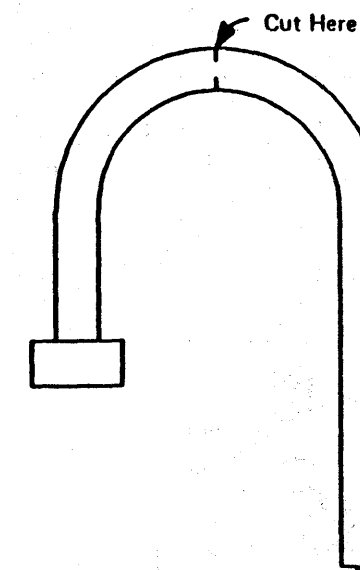

Figure 3. Cable Loop
2. Form the cable into a loop (see Figure 3).